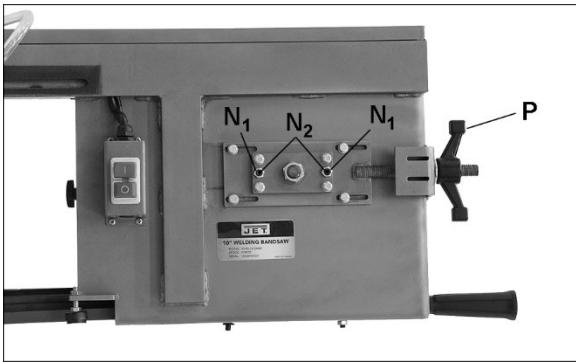

Figure 7-8: blade tension and tracking
5. Release tension on blade by turning tension handle (P, Figure 7-8) counterclockwise. Remove blade. (Use leather gloves when handling sharp blades).
Refer to Figure 7-8.
3. Turn blade tension handle (P , Figure 7-8) clockwise to tighten blade. Pluck the blade with your finger; a tensioned blade will emit a "twang" sound. As experience with the saw is gained, operator may develop a better feel for how tight to set a particular blade.
5. If blade is not tracking properly, loosen either of two hex nuts (N_1 , Figure 7-8).